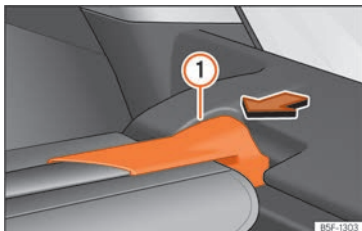

Fig. 129 In the luggage compartment: removing the shelf.
- Press the rear shelf support »» Fig. 129 ① in the direction of the arrow.
- Engage the support of the rear shelf »» Fig. 129 ① into the housing on the other side.